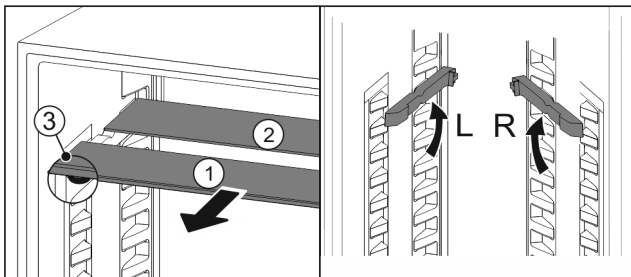

Fig. 102
- Pull the glass panels out Fig. 102 (1) from the front, one at a time.
- The glass panel Fig. 102 (1) and trim strip are at the front.
- The stops Fig. 102 (3) point down.